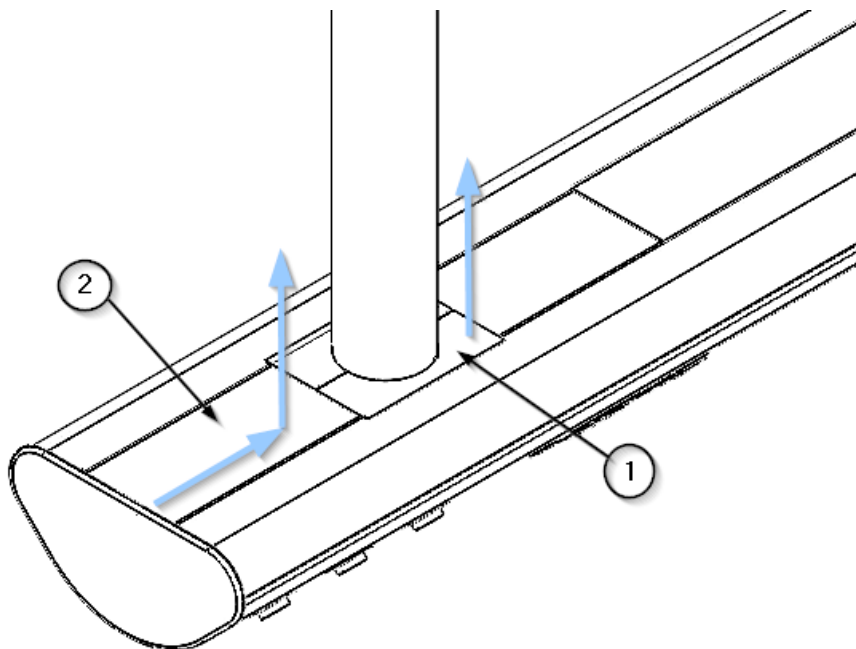

Fig. 8 Removal of main body covers
- Using a flat-nosed tool and taking care not to damage the paint on the top covers, remove the bottom covers of the downpipes ①, these are press-fitted. See figure 8.
- Now move the upper covers of the main body ②, which are also press-fitted, by hand, first in the direction of the main body and, once the side wall has been cleared, by pulling them upwards. See figure 8.